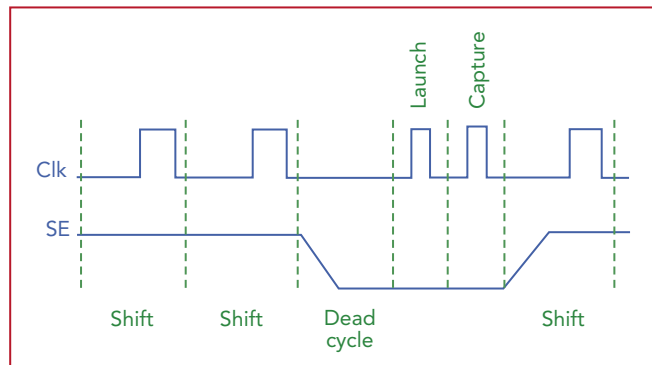

FIGURE 2. With broadside transition patterns, a scan chain is loaded and then placed in functional/capture mode by forcing scan_enable (SE) to 0.
The most common technique for applying at-speed transition patterns is referred to as a broadside or launch-from-capture pattern type (Ref. 6), as shown in **Figure 2**. With this pattern type, the scan chain is loaded and then placed in functional/capture mode by forcing scan_enable (SE) to 0. Sometimes, an extra cycle is added to the test pattern that has no activity to ensure that the scan_enable completely settles. Next, two pulses are generated to launch and capture the transition.